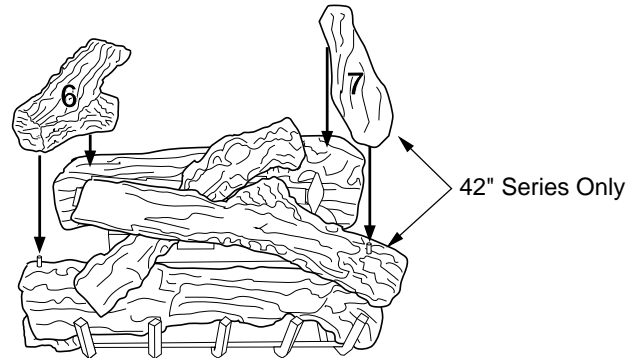

Figure 50 - Installing Log No. 6 (36" and 42" Series) and Log No. 7 (42" Series Only)
6. Place log #6 (left log) onto left pin of front log (#2) and the smooth surface of rear log (#3) as shown in Figure 50. Make sure it is seated properly.
7. For (V)V42 series only, place log #7 onto right pin of top log (#5) as shown in Figure 50. Make sure it is seated properly.